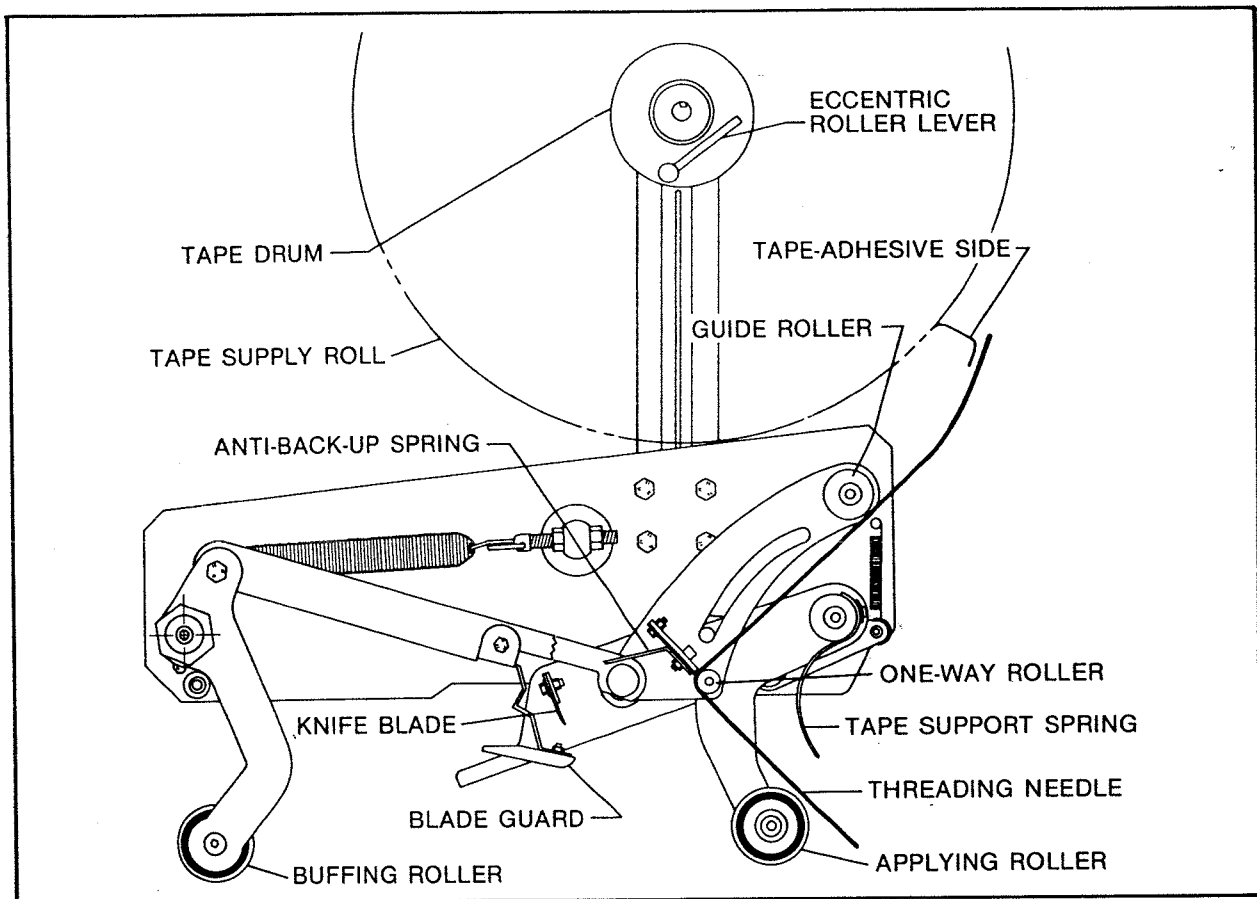
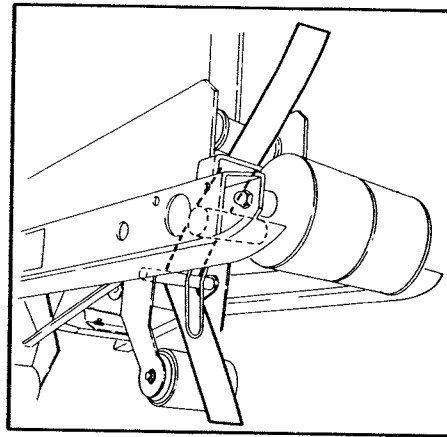
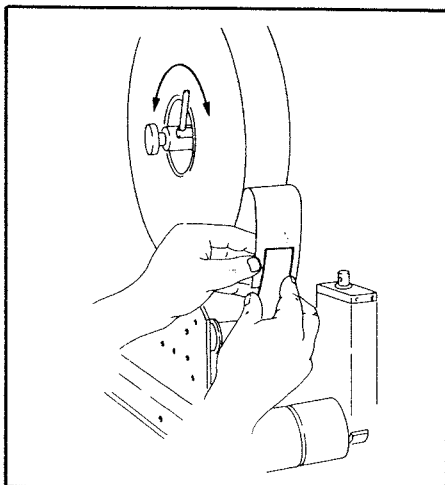

FIGURE 4 - TAPE THREADING DIAGRAM - TOP TAPING HEAD - LEFT SIDE VIEW
FIGURE 4B
FIGURE 4C
- 2) With the temporary threading needle already in position, as shown in figure 4, follow the tape loading procedure from figure 4C to complete the tape threading.
Figure 4B - Thread lower end of needle around front side of applying roller, as shown, between support spring and applying roller. Thread upper end of needle around guide roller as shown in figure 4.
Figure 4C - Turn eccentric roller lever inward to rest against tape drum shaft and place tape roll on drum to dispense tape from bottom of roll toward guide roller with tape adhesive side up. Seat tape roll fully against back flange of drum and turn roller lever outward to secure tape roll. Adhere tape lead end to upper end of threading needle as shown.